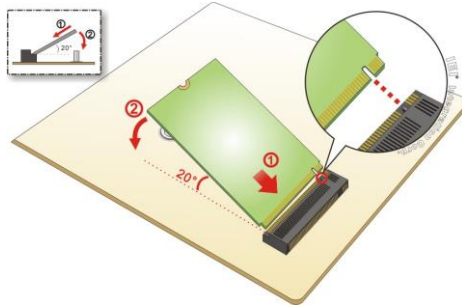

Figure 3-5: Inserting the WLAN Module
Step 3: Line up the notch on the WLAN module with the notch on the slot. Slide the WLAN module into the slot at an angle of about 20° (Figure 3-5).